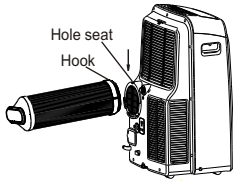

Fig. 17
2. Resert the hook of the Exhaust hose into the hole seat of the air outlet and slide down the Exhaust hose along the arrow direction (See Fig.17) for installation.